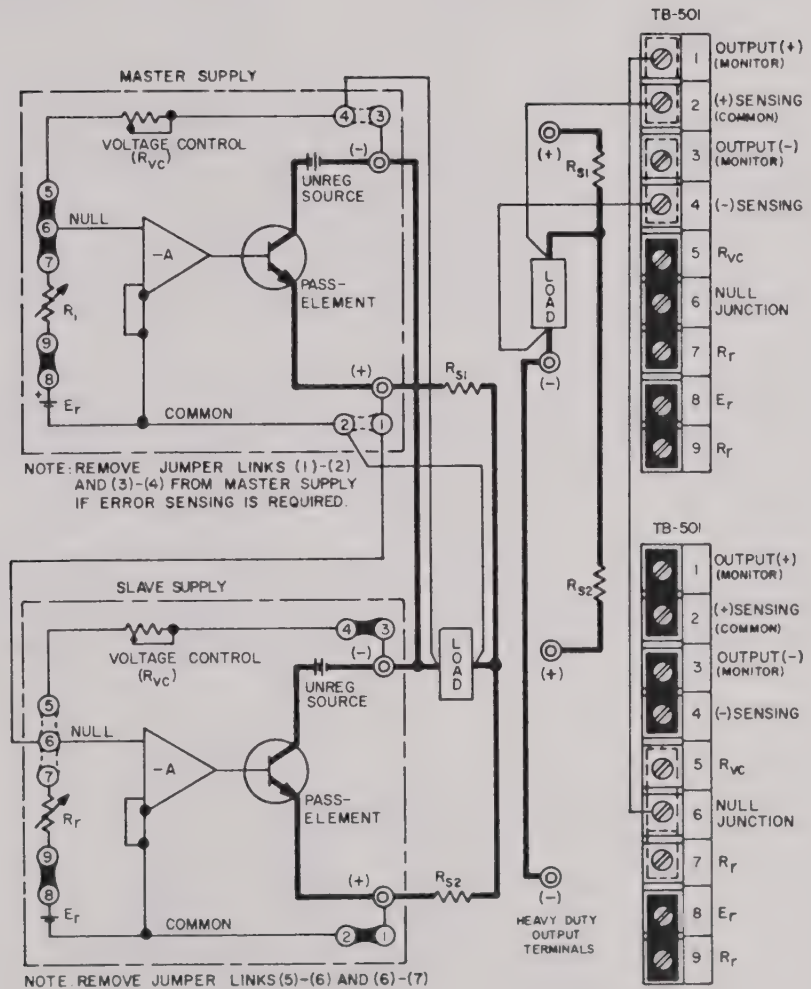

FIG. 3-14 MASTER SLAVE PARALLEL CONNECTION OF KEPKO POWER SUPPLIES
- 3.45 **MASTER/SLAVE PARALLEL CONNECTION.** Two power supplies are shown in FIG. 3-14, although more can be paralleled, each unit requiring its own sampling resistor. The sampling resistors (R_{s1}, R_{s2} in FIG. 3-14) are of equal value and are selected such that the voltage drop across them (due to the output current), plus the voltage drop in the load connection leads does never exceed 0.5 volts. If the voltage drop across the load connecting leads alone is at least 0.1 volt, the sensing resistors can be deleted since the leads provide the necessary sample voltage. For equal current sharing, however, the lead **length** and **diameter** should be the same for both power supplies. Output control is exercised from the "Master" supply
- 3.46 **PROCEDURE FOR "MASTER/SLAVE" PARALLEL OPERATION (See FIG. 3-14)**
- 2) Make all load and sensing connections as shown in FIG. 3-14. The error sensing connections may be deleted if the minor voltage drop across the load wires (which subtracts from the available compliance voltage) can be tolerated